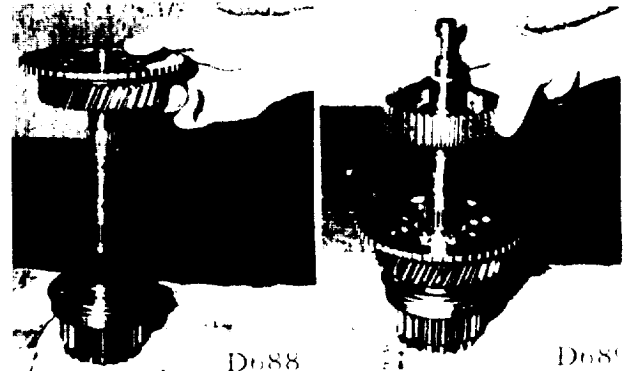

FIGURE 7-31. FIGURE 7-32.
c. Install the output gear assembly, followed by another thrust bearing (see figure 7-31).